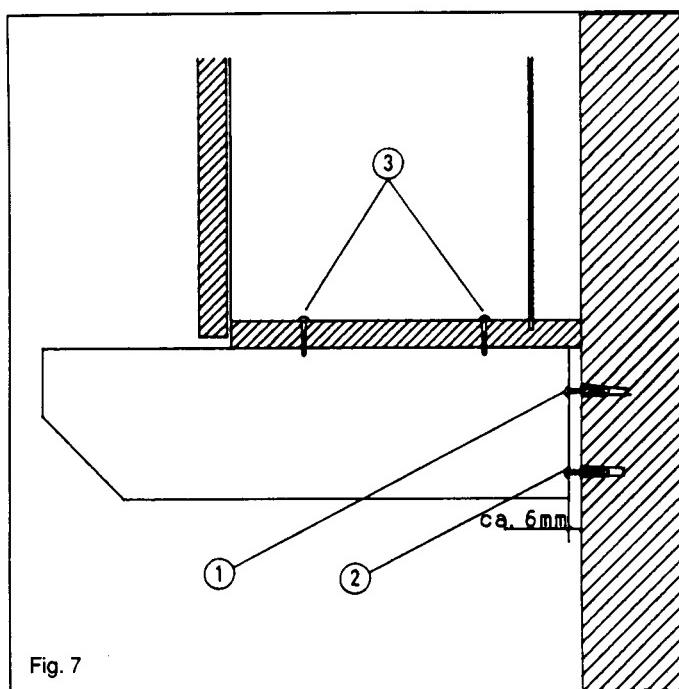

Fig. 7
2. Drill the two fastening holes, drive in the wall plugs and screw in the screws until their heads are about 6 mm from the wall (fig. 7/1).
Than mark the position of the two holes (fig. 7/2). Take it off from the wall now, drill the homes and fit the plugs.
4. Place the hood once again to the wall, tighten the screws (fig. 7/1) and introduce the screws (fig. 7/2) from the inside of the appliance.
5. Turn the cupboard back over and stand it on the top of the cooker hood and fasten the hood to the cupboard by means of four screws screwed through the holes that were drilled in the bottom of the cupboard (fig. 7/3).